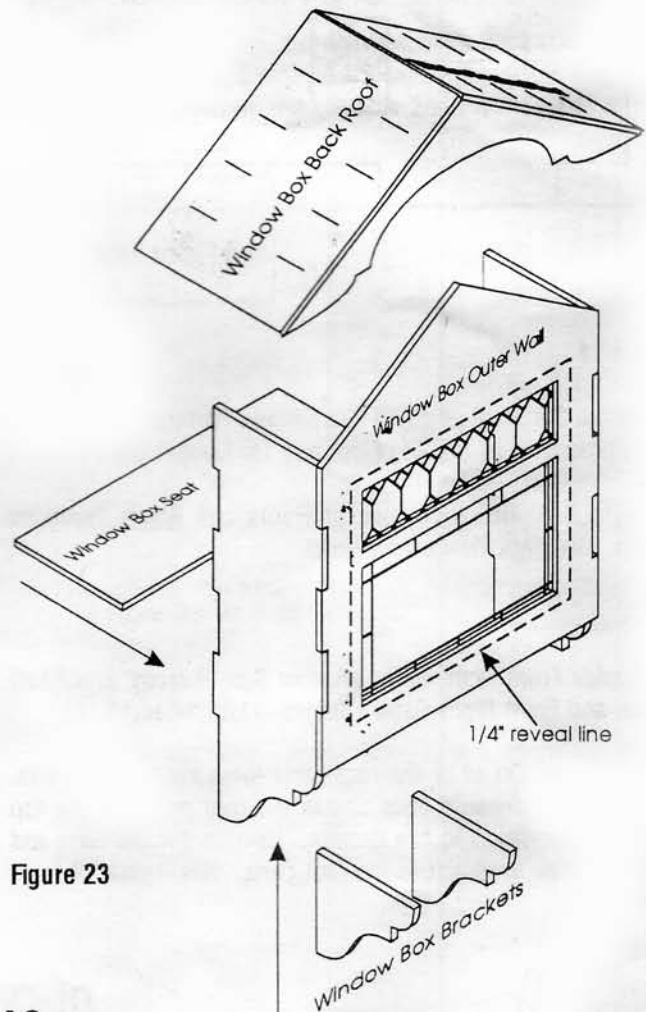

Figure 23
c. Interlock and glue walls into position. Install Seat, Brackets and Roof parts. Figure 23. The Window Box Seat bottom side should be flush with the bottom edge of the Window Box Outside Wall.
d. Measure and mark 1/4" away from the Window Box window opening. Cut and install 5-155 above and below, and 5-158 to the left and right of the lines as shown in Figure 23.